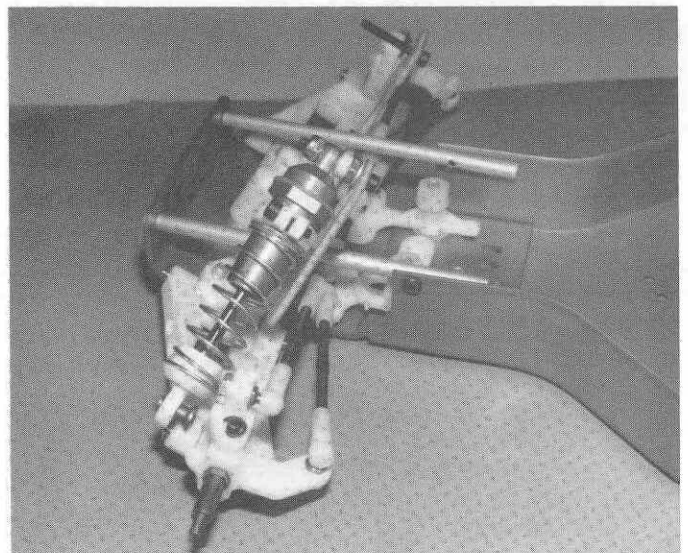

Fig. 130
□ **Fig. 130** Slip the shock on the upper mount and install a locking nut. DO NOT tighten down too tight on this nut or you'll bind up the shock. Squeeze the bottom end of the shock up and then slip the end down into the lower "A" arm slot, with the flat side of the ball to the rear.